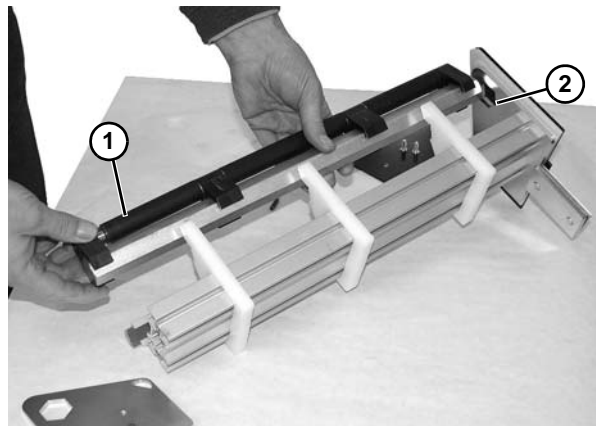

Figure 95
7. Remove spindle assembly (**Figure 95, item 1**) from opposite side backing plate assembly (**Figure 95, item 2**).